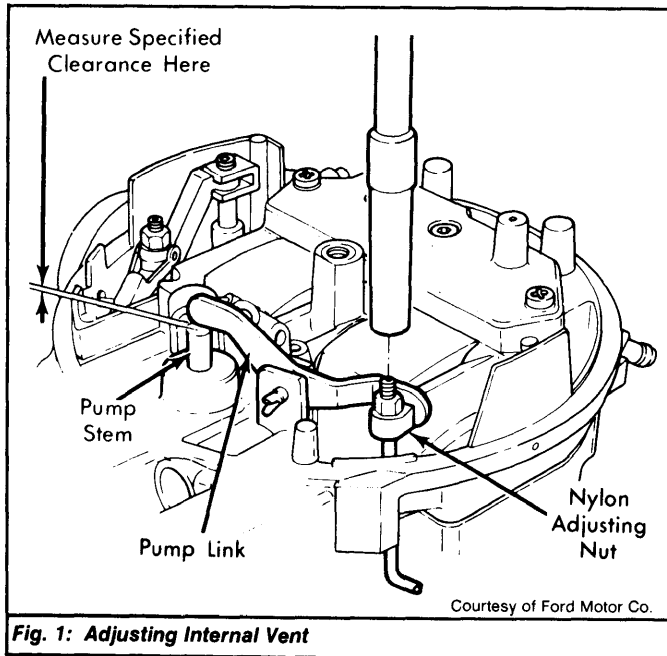

Fig. 1: Adjusting Internal Vent
1) Ensure curb idle speed is correctly adjusted. Measure clearance between accelerator pump stem and pump operating link with a feeler gauge. See Fig. 1.